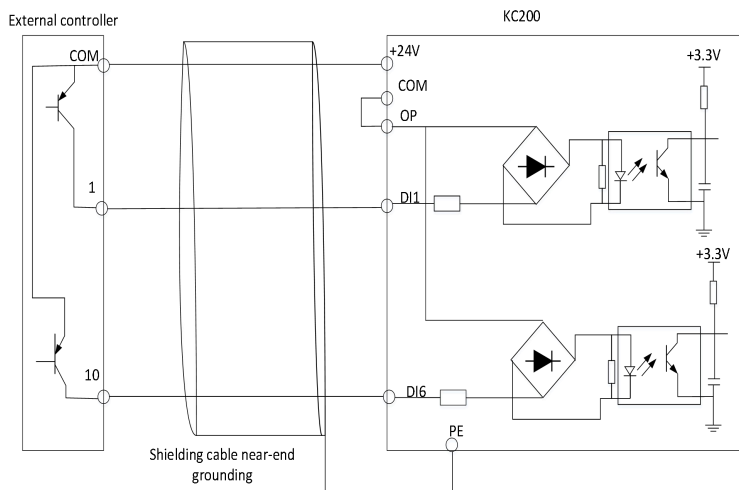

Figure 3-9 Drain connection of the +24V power supply inside the AC drive
2) Use the internal +24V power supply of the AC drive, and the external controller is a PNP type common emitter output connection method (note that the connection line between the OP and the 24V terminal is removed), as shown in Figure 3-9.